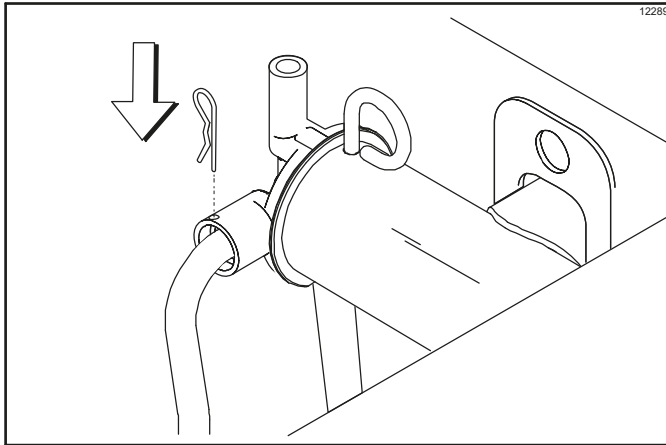

Figure 6-35
5. **Important:** Install the pump end of the mix feed tube and secure with the cotter pin. Failure to follow this instruction could result in sanitizer spraying on the operator. (See Figure 6-35.)